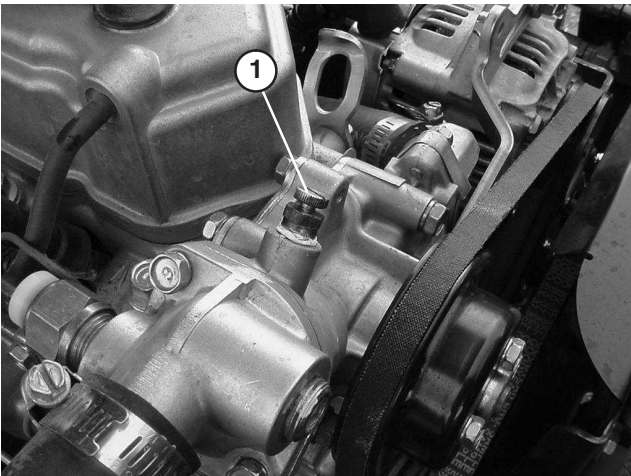

Figure 46
6. Open bleed screw on top of water pump (Fig. 46).